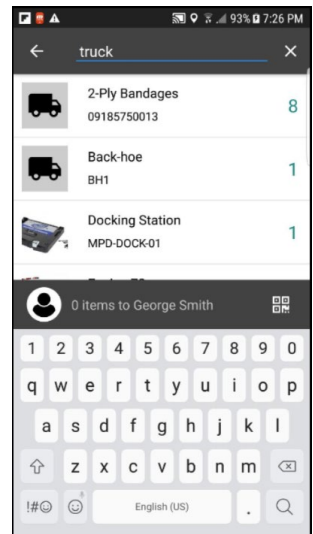

Figure 7.1.1.4
- To filter (see Figure 7.1.1.5):